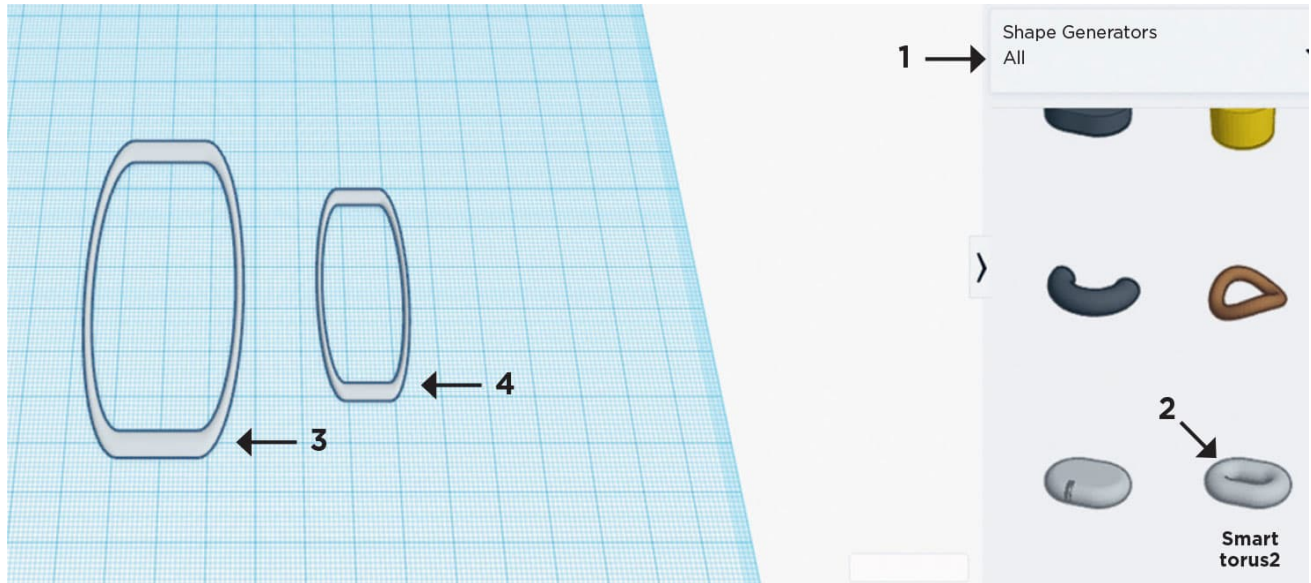

FIG. 1: Model the paperclip using two torus shapes.
1. In **Shape Generator**—**All** (arrow 1), use the **Smart Torus 2** (arrow 2) to create two tori, one smaller than the other and both of thickness 2 mm. The larger torus (arrow 3) should be roughly 75 mm by 35 mm, while the smaller (arrow 4) should fit inside it, roughly 50 mm by 20 mm (fig. 1).